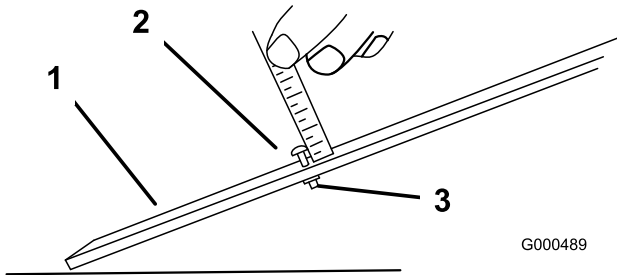

Figure 48
3. Loosen the nut on the gauge bar (Figure 48) and set the adjusting screw to the desired height of cut. The distance between the bottom of the screw head and the face of the bar is the height of cut.